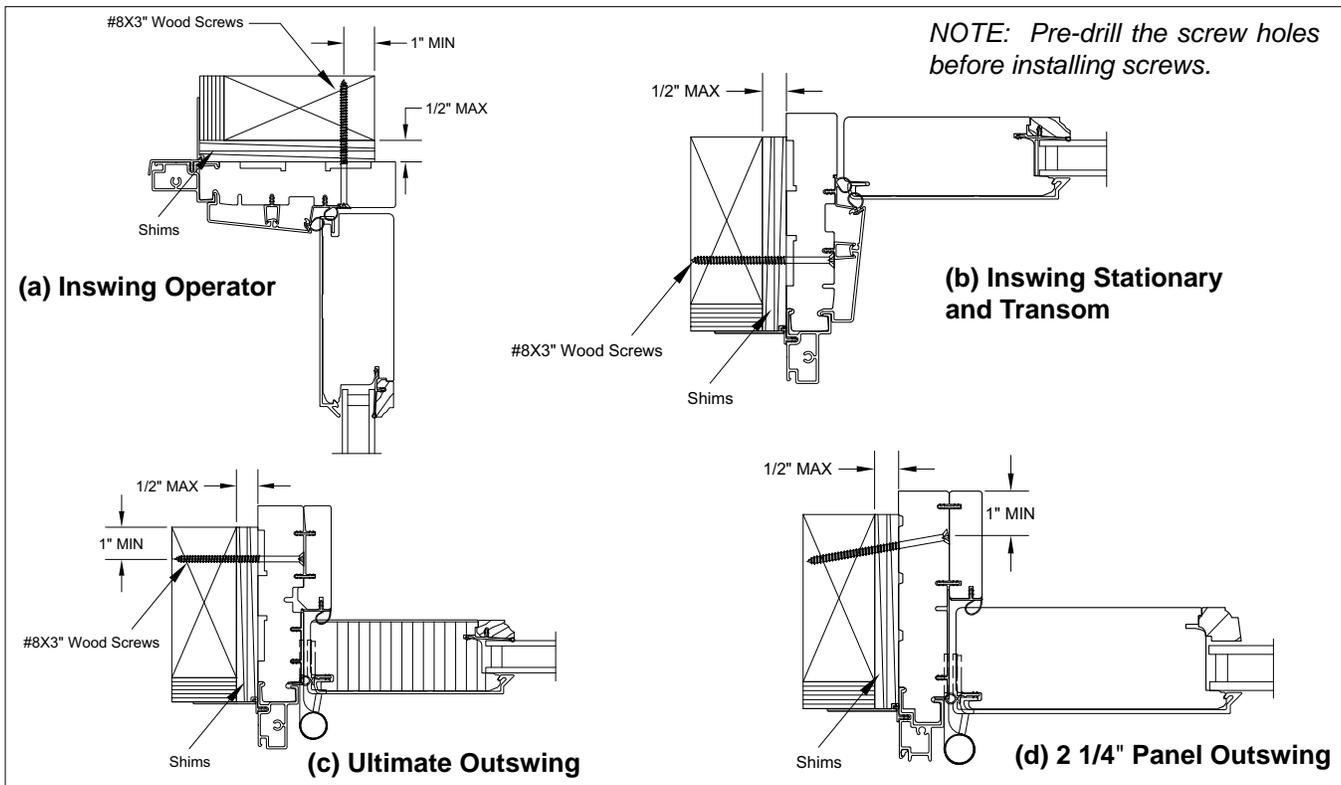

Figure 1
1. **For units utilizing jamb screw installation (wood and clad):** Once the unit has been properly shimmed, plumbed, and squared fasten unit to wood buck/rough opening with minimum diameter of a #8 wood screw. Length of jamb screws may vary depending on type of unit, location and operation of the panel with a minimum buck penetration of 1 1/4" (32). A minimum jamb screw length of 3" (76) is required. Screws must be a minimum of 1" (25) from edge of buck. Place the screw 6" (152) from each corner, maximum 12" (305) on center, with a minimum of 2 per side. See figure 1 for fastening detail and page 3 for exterior stop removal instructions.